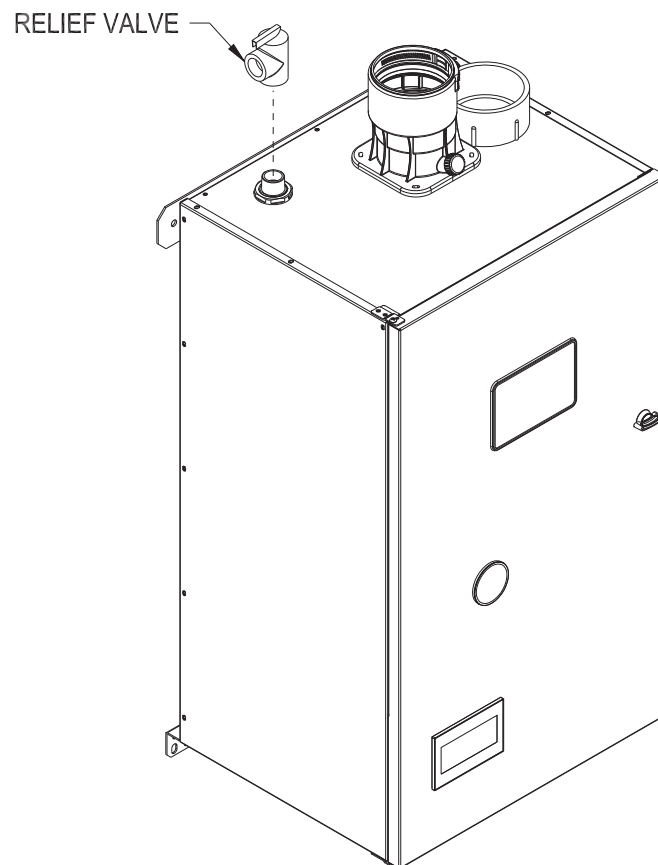

Figure 9.0: Factory Supplied Piping and Trim Installation
1. Relief Valve (Required) – The relief valve is shipped loose and must be installed in the location shown in Figure 9.0. Pipe the outlet of the relief valve to a location where water or steam will not create a hazard or cause property damage if the valve opens. The end of the discharge pipe must terminate in unthreaded pipe. If the relief valve discharge is not piped to a drain, it must terminate at least 6" above the floor. Do not run the discharge piping through an area that is prone to freezing. The termination of the relief valve must be in an area where it is not likely to become plugged by debris.